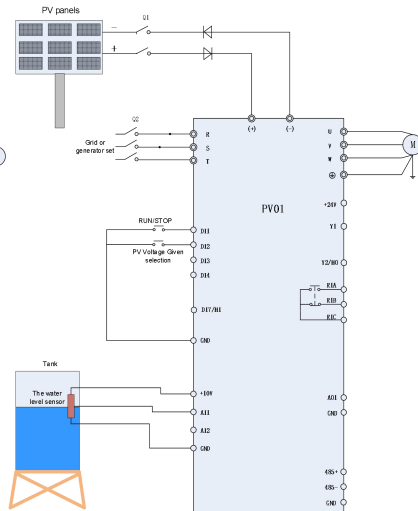

Figure 2-2(b) PV01(4T)
1. Wirings as Figure2-2(a)&Figure2-2(b)system wiring drawings according to inverters power, check and confirm the connections to be correct.